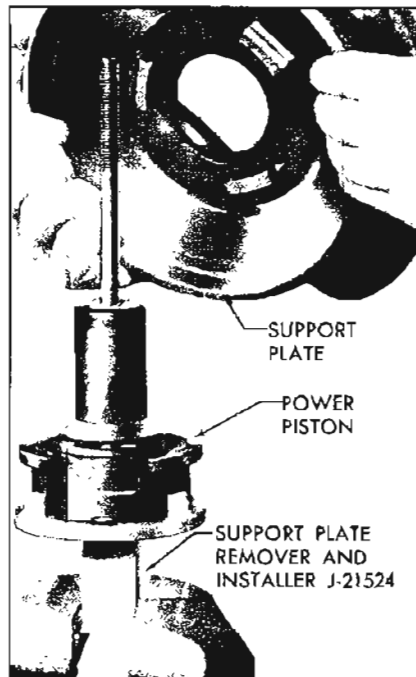

Figure 9-46—Removing Support Plate
5. Press down on the support plate and rotate counterclockwise until the support plate separates from the power piston. See Figure 9-46.